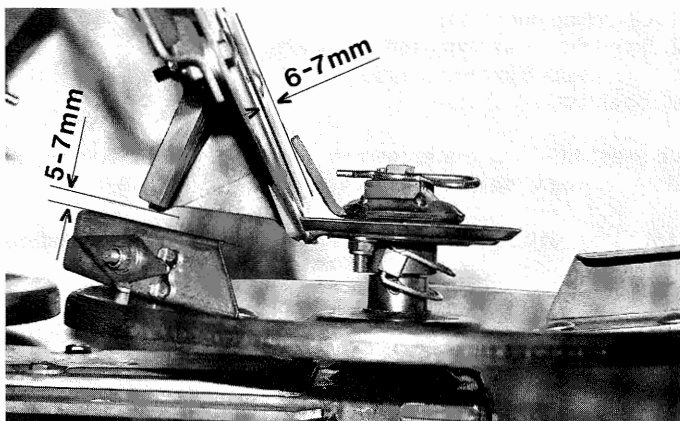

Fig. 9.4
### 6. Check regularly the spacings according to Fig. 9.4:
- When fitting the agitator heads the sense of rotation must be observed. The agitator fingers are provided with an especially wear resistant welded coating (9.9/5). This has always to be placed in front, seen in sense of rotation. Further the agitator finger on the fertiliser flow opening must have a spacing of 6 to 7 mm towards the hopper centre roof (see Fig. 9.4) and the agitator head may not slide on the hopper bottom.